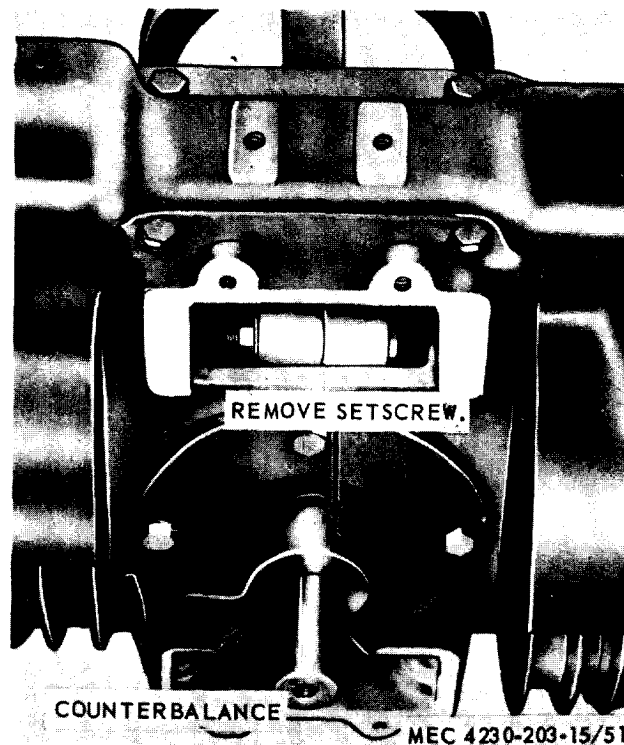

Figure 4-29. Counterbalance, removal and installation.
(1) Remove the blower scroll (para 4-31).
(2) Refer to figure 4-29 and remove the counterbalance.
(1) Refer to figure 4-29 and install the counterbalance. It must be installed in the same position from which removed.
(2) Install the blower scroll. (para 4-31).